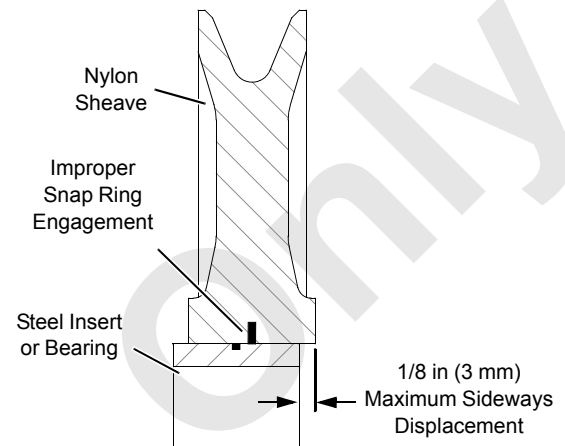

FIGURE 5-28
8. Inspect nylon sheaves to verify they have not separated and "walked off" steel inserts or bearings as shown in Figure 5-28. Maximum sideways displacement is 1/8 in. (3 mm). Replace worn or damaged sheaves.